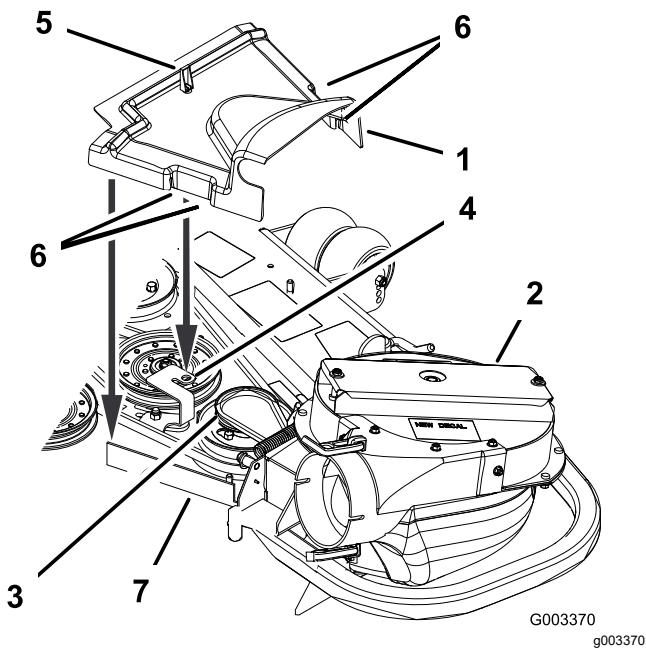

Figure 26
- Install the new belt cover so that the notches on both sides go over the belt-cover supports and secure the latch (Figure 26).